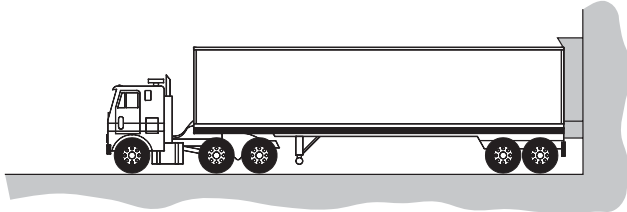

Figure 1: Trailer parked at dock
1. Slowly back the trailer toward the loading dock until the rear of the trailer makes contact with the loading dock, Figure 1.